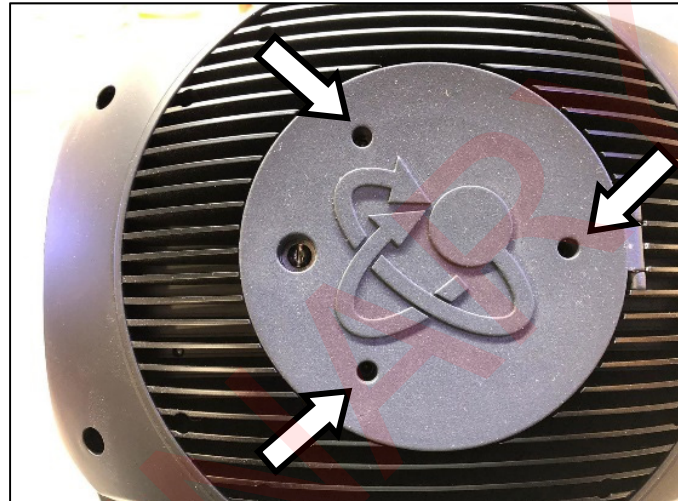

Figure 9. Lamp adjustment screws
4. See Figure 9. The fixture has three lamp adjustment screws (arrowed). Each screw tilts the lampholder assembly in the direction of the screw. Turn the screws to adjust the lampholder position and obtain the most even projection.